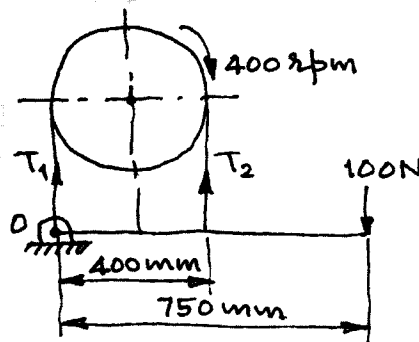

Fig.Q6(b)
- b. The band brake shown in Fig.Q6(b), uses a V-belt. The pitch diameter of the V-grooved pulley is 400 mm, the groove angle is 45° and the coefficient of friction is 0.3. Determine the power rating of the brake. (10 Marks)